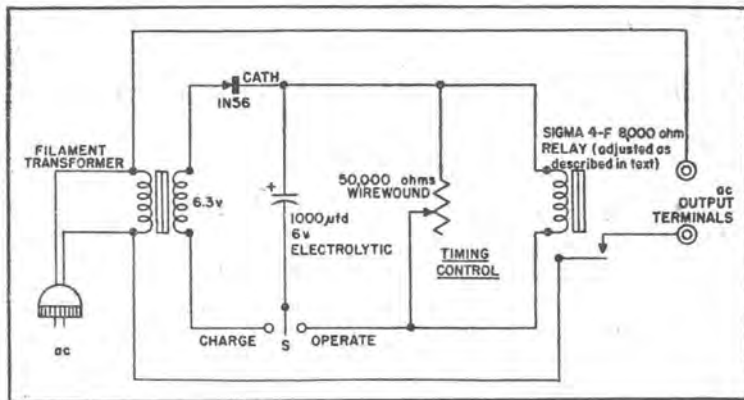

Figure 2. Timer Circuit
- Figure 2. Relay: ex-Govt. type 3000 (modified).
In this circuit (See Figure 2), direct current supplied by a 1N56 Germanium Diode energized by the 6.3-volt winding of a small filament transformer is used to charge a 1000-microfarad electrolytic capacitor. The capacitor is charged by throwing the single-pole double-throw spring-return switch, S, momentarily to its left-hand position. When the switch then is released, it returns to its normal right-hand position and the capacitor charge causes a current to flow through the coil of the sensitive relay. The relay accordingly closes and connects the two output terminals of the timer to the 115-volt ac line. The relay will remain closed
The sensitive dc relay specified in Figure 2 is a Sigma Type 4F. This unit,
Switch S should be a spring-return type. The normal resting position of the switch connects the capacitor to the relay circuit, as shown in Figure 2. Some readers will find it more desirable to